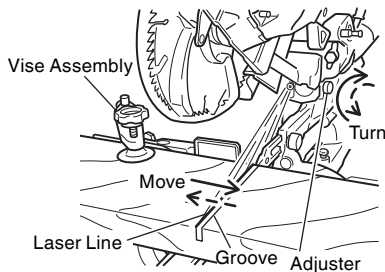

Fig. 20
(1) Light up the laser marker and make a groove of about $3/16$ " (5mm) deep on the workpiece that is about $25/32$ " (20mm) in height and $5-29/32$ " (150mm) in width. Hold the grooved workpiece by vise as it is and do not move it. For grooving work, refer to "11.Groove cutting procedures" on page 24.
(2) Then, turn the adjuster and shift the laser line. (If you turn the adjuster clockwise, the laser line will shift to the right and if you turn it counterclockwise, the laser line will shift to the left.) When you work with the ink line aligned with the left side of the saw blade, align the laser line with the left end of the groove. (Fig. 20) When you align it with the right side of the saw blade, align the laser line with the right side of the groove.
(3) After adjusting the position of the laser line, draw a right-angle ink line on the workpiece and align the ink line with the laser line. When aligning the ink line, slide the workpiece little by little and secure it by vise at a position where the laser line overlaps with the ink line. Work on the grooving again and check the position of the laser line. If you wish to change the laser line's position, make adjustments again following the steps from (1) to (3).